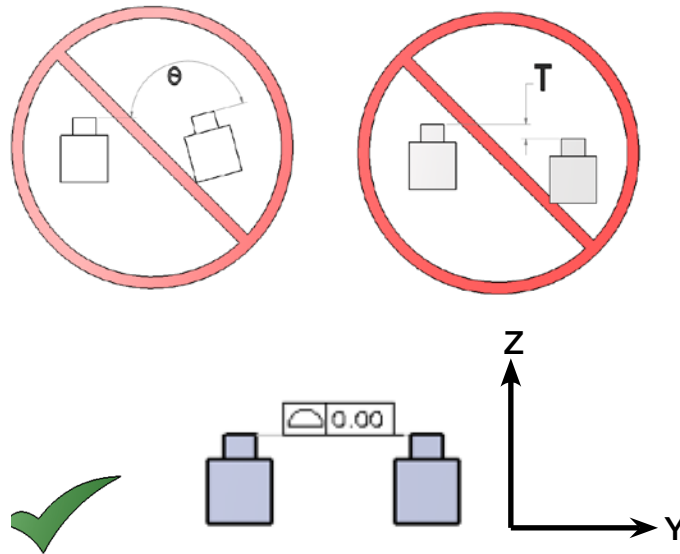

Figure 7: (Top) Parallel actuators with angle misalignment and plane height misalignment. (Bottom) Proper parallel alignment.
1. Are the actuators mounted with the carriages at the same height? Misalignment in this plane will put an unfavorable Mx-axis bending moment on the bearing system of one or both units. (See figure 7.)